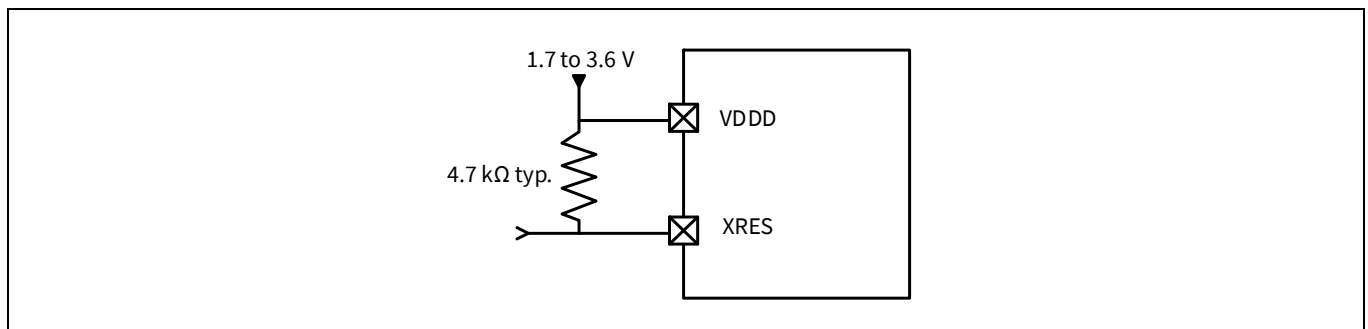

Figure 4 XRES connection diagram
- External reset dedicated pin (XRES) to reset the device using an external source. The XRES pin is active LOW and has a weak internal pull up of 85 kΩ. An optional 4.7 kΩ pull up resistor can be connected to VDDD as shown in Figure 4